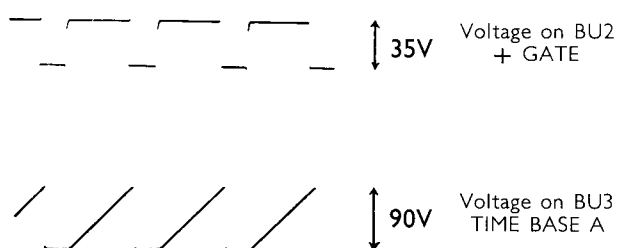

Fig. 66. Output wave-form of "+Gate" and "Timebase" busses
- The synchronous voltages of Fig. 66 should be available on output terminals BU2 and BU3.